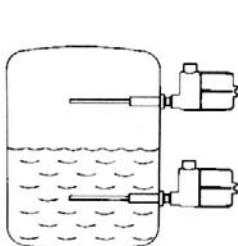
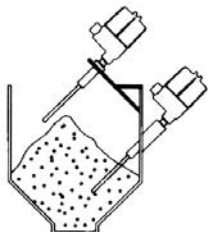

FIGURE 3
FIGURE 7
Standard Configuration is a 3/4" NPT(M) pipe nipple that threads into a 3/4" NPT(F) vessel nozzle or half coupling. Allow a 4-inch turn radius. (See Figures 3 and 4.) Open tanks, vats, sumps or basins may require a locally-made bracket mount similar to that shown in Figure 7.